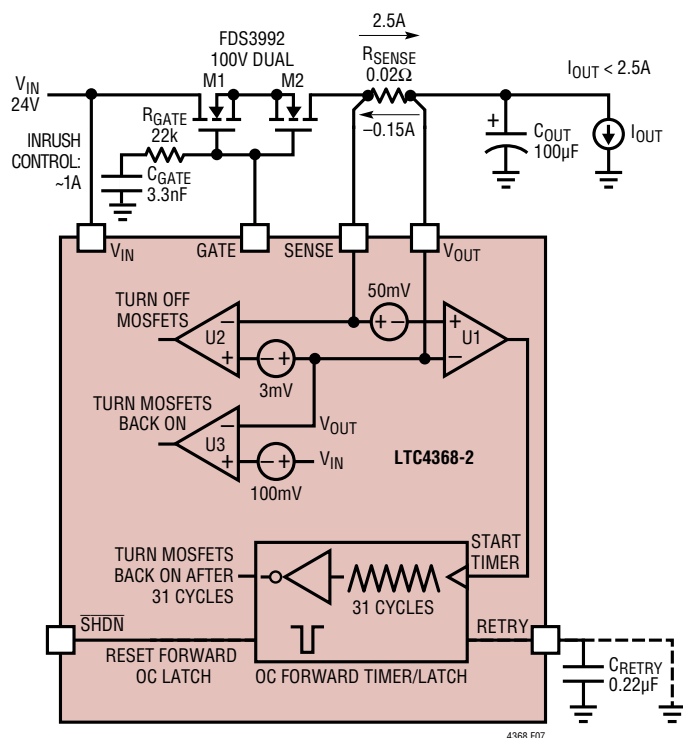
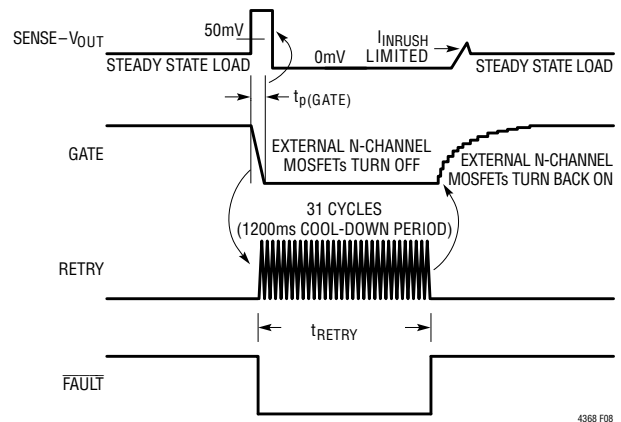

Figure 7. Overcurrent Comparators Monitor 2.5A/-0.15A Current Faults
Figure 8. Forward Overcurrent Fault with $0.22\mu\text{F}$ RETRY Capacitor
The 3.3nF C_{GATE} capacitor in the application circuit of Figure 7 limits the inrush current to just over 1A. R_{GATE} prevents C_{GATE} from slowing down the reverse polarity protection circuits. It also stabilizes the fast pull-down circuits and prevents chatter during fault conditions. Set R_{GATE} to 22k for most applications.
Forward overcurrent protection prevents large currents from flowing from V_{IN} to V_{OUT} . This threshold current is determined by the external sense resistor (R_{SENSE}) and an internal comparator (Figure 7, U1) with a 50mV threshold:
For the example of Figure 7, if 2.5A flows to the output across the 20m Ω sense resistor, the external MOSFETs (M1, M2) are immediately (8 μ s) turned off. This disconnects the load from the input supply.
For the example of Figure 7, the 3.3nF GATE capacitor and the 100 μ F output capacitor limit the inrush current (I_{INRUSH}) to approximately 1A. This means that the output current (I_{OUT}) must be less than 1.5A during turn on in order to avoid a forward overcurrent fault during turn on. Once V_{OUT} has ramped to its final value, the output current is limited to 2.5A.
1. Automatically restart by placing an external capacitor on the RETRY pin. An internal cool-down timer will charge/discharge this capacitor 31 times with a 5.5ms/nF total delay. At the end of this delay, the external MOSFETs are turned back on, thus reconnecting the load to the input supply. The 0.22 μ F capacitor (C_{RETRY}) in the application of Figure 7 yields a 1200ms cool-down timer delay. Note that the adjustable cool-down period provides the user with a means of keeping the external MOSFETs within the rated SOA (safe operating area). See Figure 8 timing diagram.
Reverse overcurrent protection prevents large currents from flowing from V_{OUT} to V_{IN} . There are two options for reverse overcurrent protection thresholds. The LTC4368-1 (-50mV) bidirectional circuit breaker allows load current to flow in either direction: from V_{IN} to V_{OUT} or from V_{OUT} to V_{IN} . The LTC4368-2 provides diode-like behavior by making the reverse overcurrent threshold (-3mV) significantly smaller than the forward overcurrent threshold ($+50\text{mV}$). The reverse overcurrent fault threshold is determined by the external sense resistor (R_{SENSE}) and an internal comparator (Figure 7, U2). For the LTC4368-2 application of Figure 7:
To turn the MOSFETs back on, an internal comparator (Figure 7, U3) detects when V_{OUT} drops 100mV below V_{IN} :